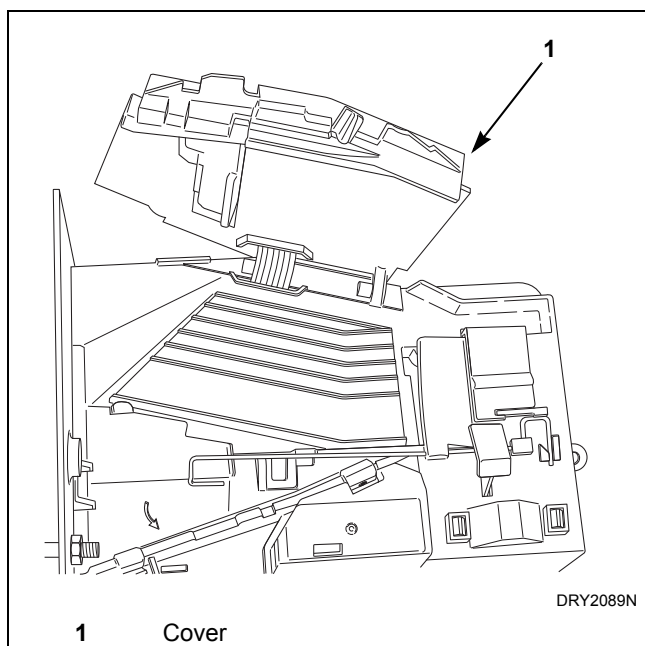

Figure 49
- b. Open cover for coin drop. Refer to *Figure 49*.